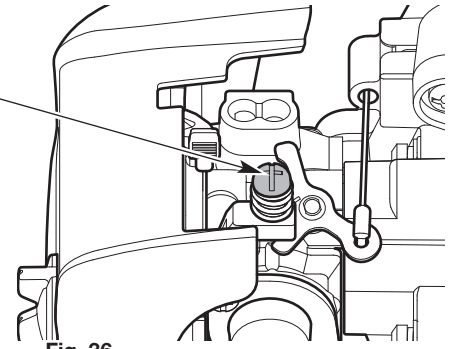

Fig. 36
- If the engine stops, increase the idle speed. Use a small Phillips screwdriver to turn the idle speed screw clockwise, 1/8 of a turn at a time, until the engine idles smoothly (Fig. 36).
- If the cutting head / blade spins when the engine idles, reduce the idle speed. Turn the idle speed screw counterclockwise, 1/8 of a turn at a time, until the cutting head / blade stops moving (Fig. 36).